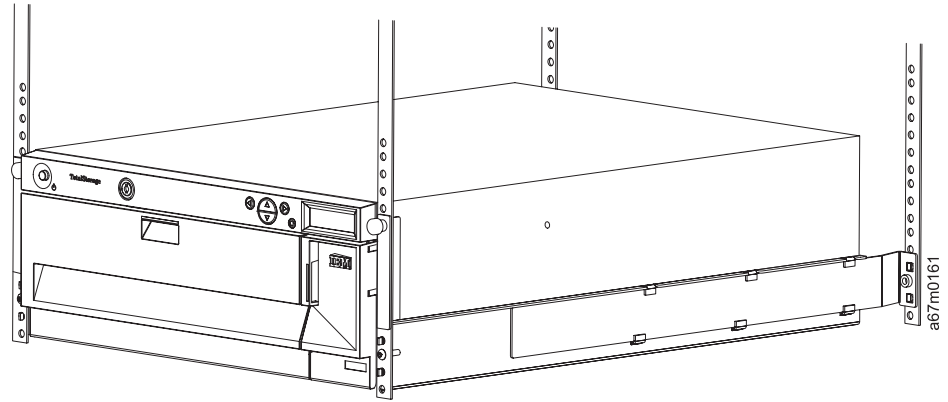

Figure 38. Library in the rack
- ___ 13. Attach the securing brackets on the front of the library to both sides of the rack by tightening the thumbscrews on the securing brackets. Figure 38 on page 58 shows the library installed in a rack.